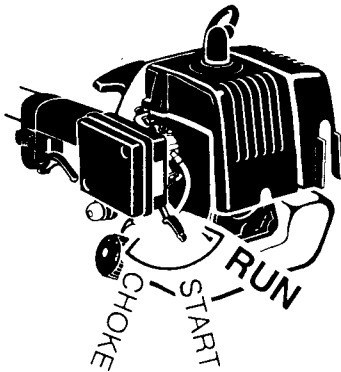

Figure 6-1G
7. Once engine starts, leave the choke in the "START" position for 10 seconds, then move choke to "RUN" position. (Figure 6-1G)